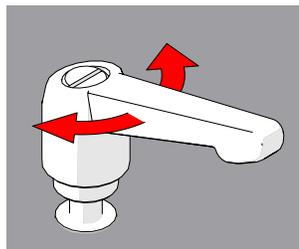

Fig. 34 - Rotate handle
2. Continue to pull while rotating the lever in the appropriate direction (Fig. 34).